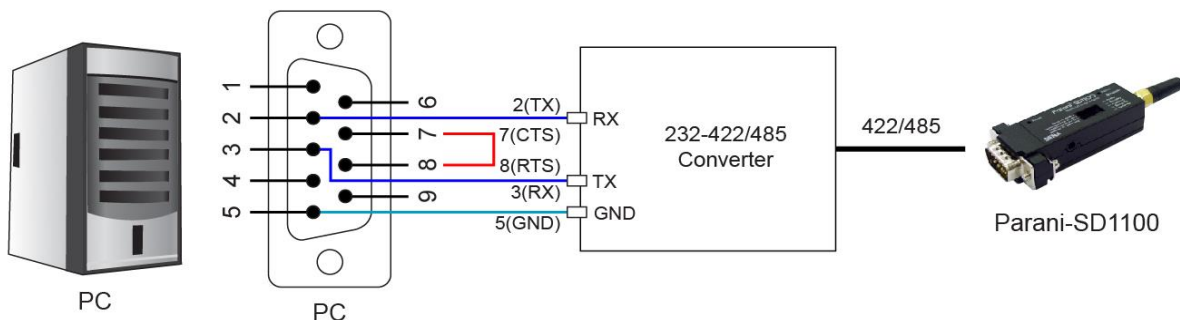
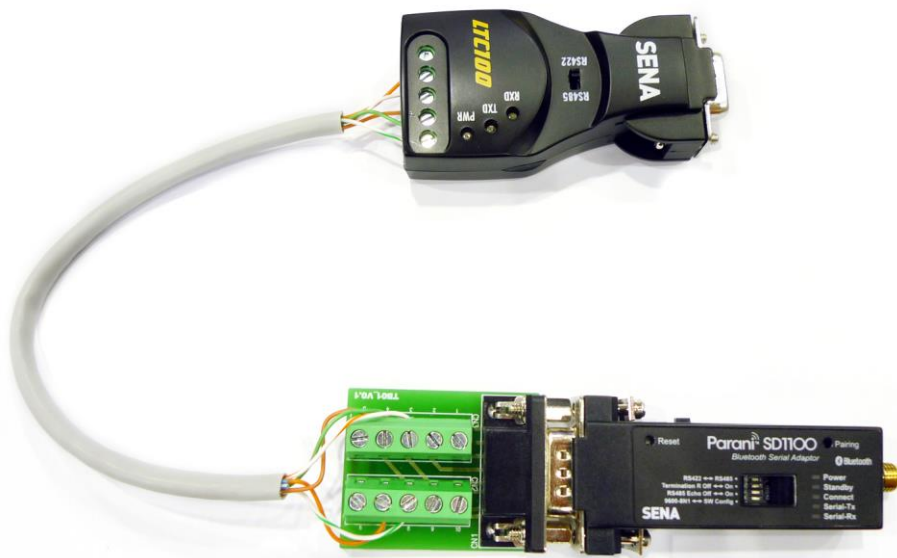

Figure 3-14 Serial Wiring for Firmware Update
Figure 3-15 Firmware Update Kit
* Note: Firmware update can be possible after connecting CTS pin with RTS pin. Because there is no CTS/RTS pins with SD1100, users need to shortcircuit the CTS/RTS at PC serial side before updating firmware (Refer to Figure 3-14). Users can use the Firmware Update Kit - an accessory for SD1100 - which is already wired for firmware update. (Refer to Figure 3-15)